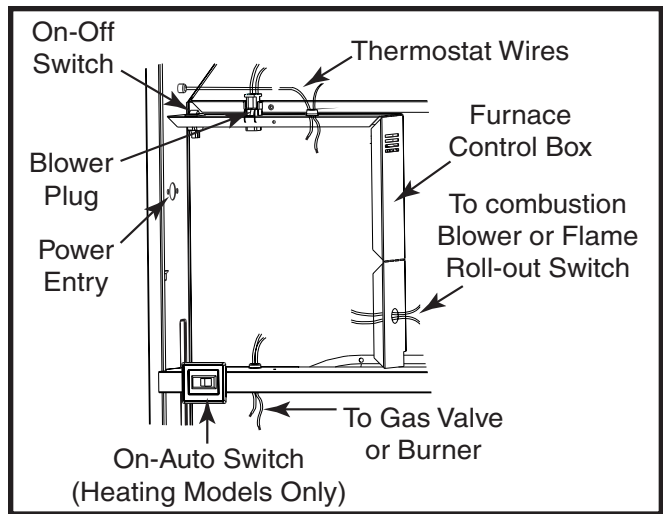

Figure 24. Control Panel (All Models)
2. Route wires (115 VAC) through the strain relief on the left side of the furnace control box. See Figure 24.